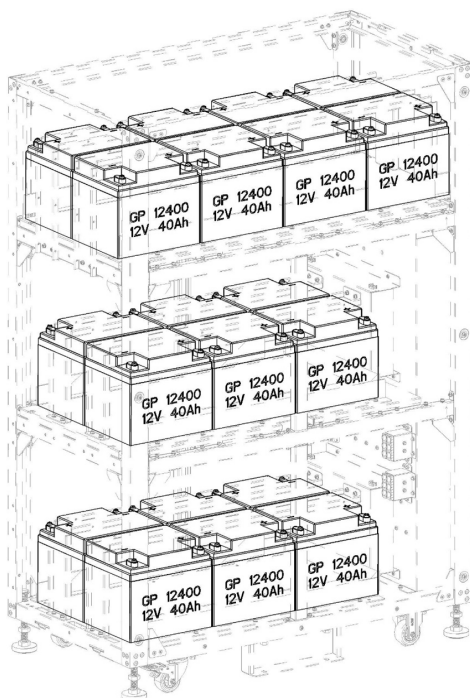

Figure 5-39
9. Reinstall layer 3 battery retention plates and screws (Figure 5-39).